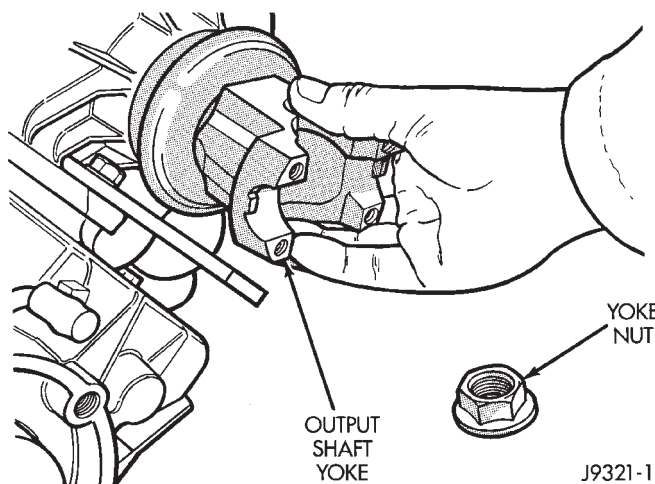

Fig. 98 Installing Output Shaft Yoke
(4) Install yoke and new yoke nut on front output shaft (Fig. 98).
(5) Tighten yoke nut to 122-176 N•m (90-130 ft. lbs.) torque. Use Tool C-3281, or similar tool to hold yoke while tightening yoke nut.